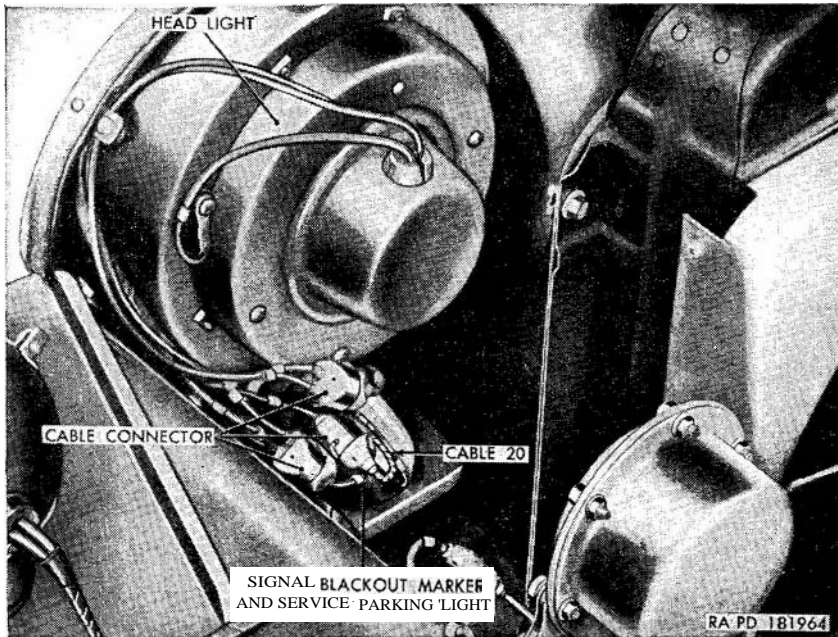

Figure 182. Electrical cables leading to left headlight assembly.
- (1) Raise hood and lock in raised position (par. 255a).
- (2) Working on the inside of the left front fender, disconnect the electrical cables (fig. 182) leading to the headlights and the signal blackout marker and service parking light assemblies.
- (5) Working on the inside of the left front fender, connect the electrical cables (fig. 182) leading to the head lights and the signal blackout marker and service parking light assemblies.
- (6) Lower hood and lock in closed position (par. 255b).